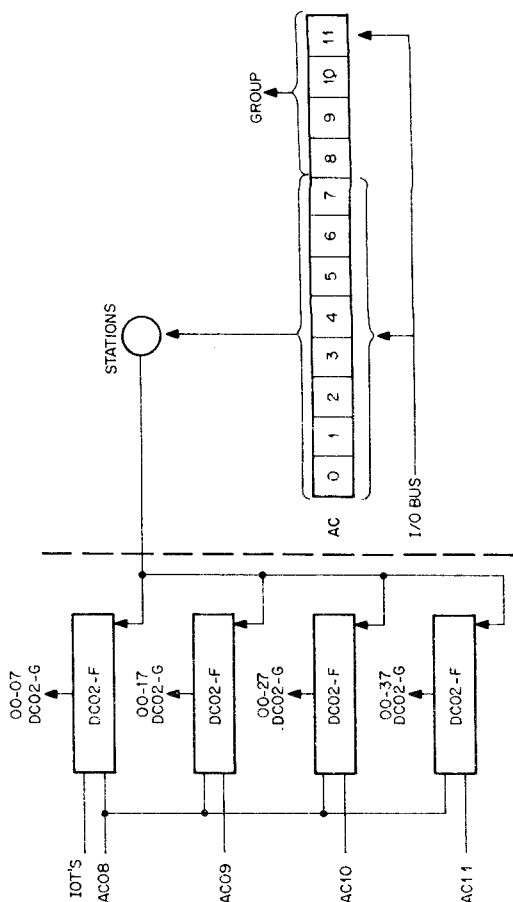

Figure 7-30 Station Selection Operation
Bits 8-11 of the accumulator select the DC02-F control which controls up to eight (8) stations (Figure 7-30). Bits 0-7 of the accumulator select the station within the DC02-F (Figure 1B). Data in the accumulator can be transmitted simultaneously to more than one station, but data from only one station can be received into the accumulator at any given time. Each station has two status flags, a receiver and a transmitter flag. When the receiver flag is set, it indicates that an eight (8) bit word has been assembled in the receiver register and is ready for transfer into the accumulator. When the transmitter flag is set, it indicates that an 8-bit word has been transmitted and the station is ready to transmit another word.
* AC bits 8-11 select the group (Figure 7-30).